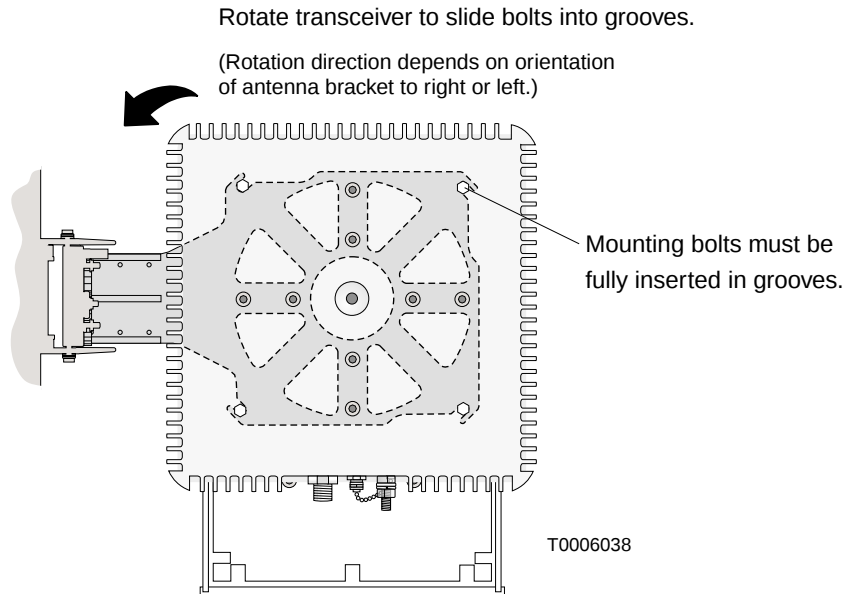

Figure 4-20 Transceiver (installed)
3. Rotate the transceiver, making sure the transceiver's mounting bolts slide into the grooves in the antenna bracket. (The direction of rotation depends on the orientation of the antenna bracket—to the right or left.) If the mounting bolts will not slide into the grooves, loosen the bolts. See figure 4-20.